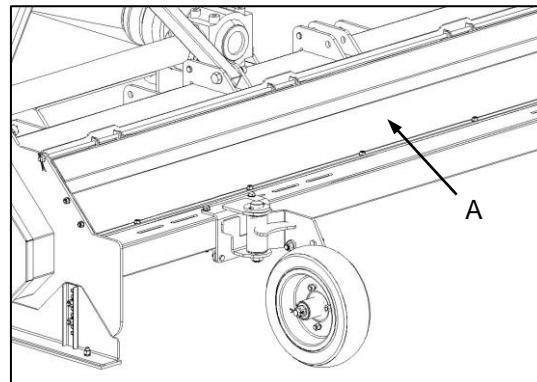

Fig. 2
➤ Containment mode (Fig. 2)
- ✓ Discharge chute in the closed position (Fig. 2-A), allowing solid materials to be repeatedly processed.
➤ Behoudmodus (Fig. 2)
- ✓ Afvoergeut in die toe posisie (Fig. 2-A), sodat gesnyde materiaal herhaaldelik gesny kan word.